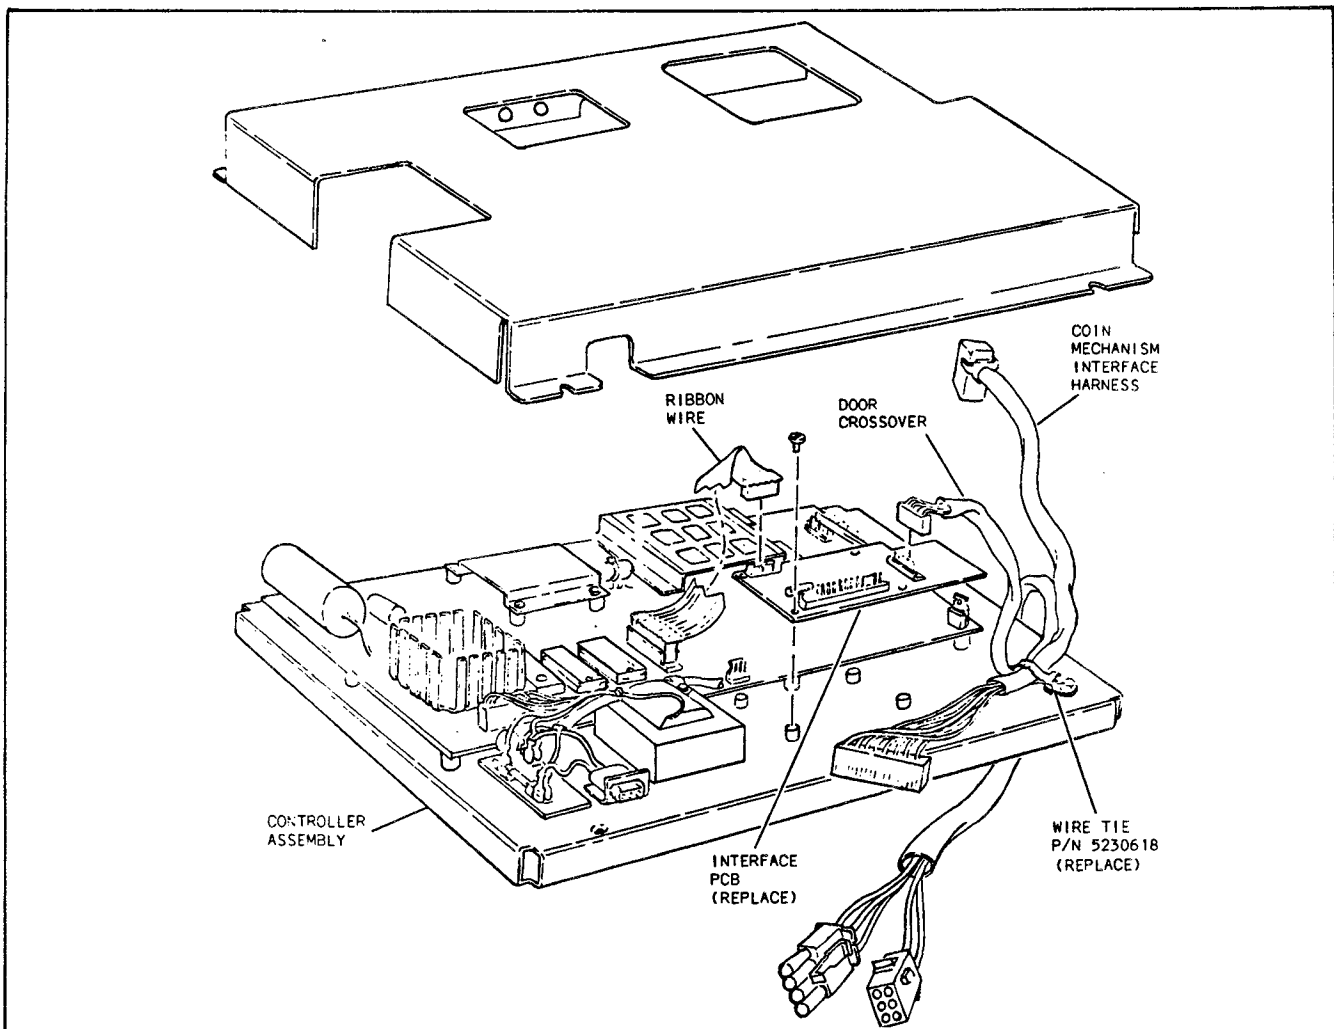

FIGURE 3
- A. Disconnect wire harnesses from controller assembly, (see Figures 3 and 4).